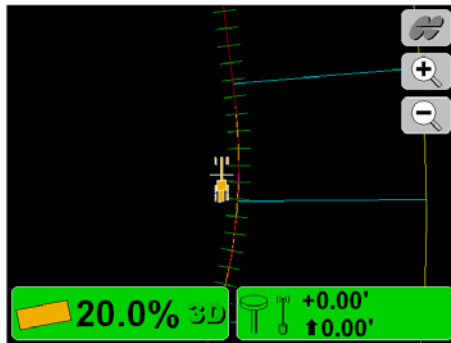

Figure 10-35. Grade to Polyline – Main Screen
3. On the main screen, tap and hold the polyline to use for grading to, then tap **Grade to polyline** the pop-up menu. Graphical crss lines display along the polyline (Figure 10-35).
4. Being grading (Figure 10-35). As needed, repeat step 3 above to grade to another polyline.